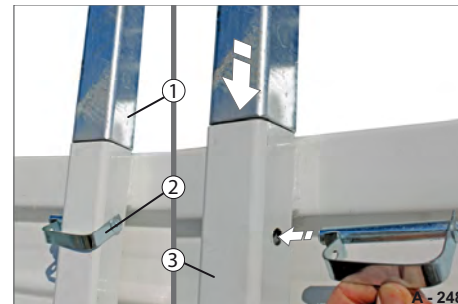

Fig. 178 Support frame secured
- ▶ If necessary, pull the spring pin bolts (Fig. 178/2) out of the bore holes.
- ▶ Insert the support frame (Fig. 178/1) simultaneously into the posts (Fig. 178/3).